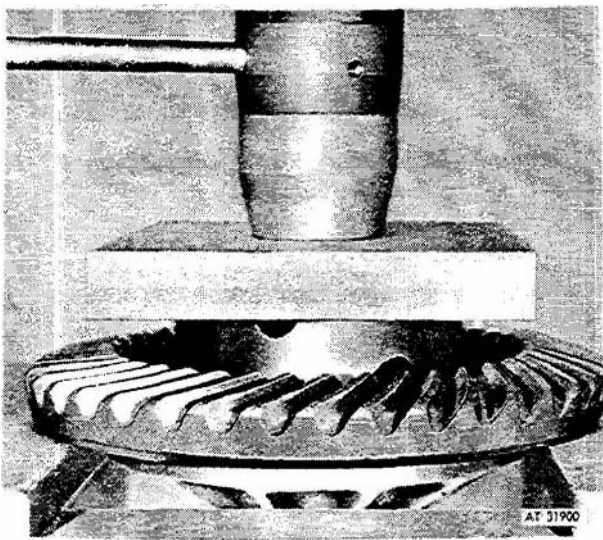

Figure 3-104. Pressing ring gear from equalizer housing
(24) Remove components from housing (3) in the same manner outlined in (21) through (23) above except do not remove housing (3) from fixture.
(25) Mark alignment of ring gear (17, fig 3-88) and housing (18, fig 3-99). Disconnect ring gear from housing by removing bolt (16, fig 3-88), nut (20), and lock washer (19). Press ring gear from housing (fig 3-104).